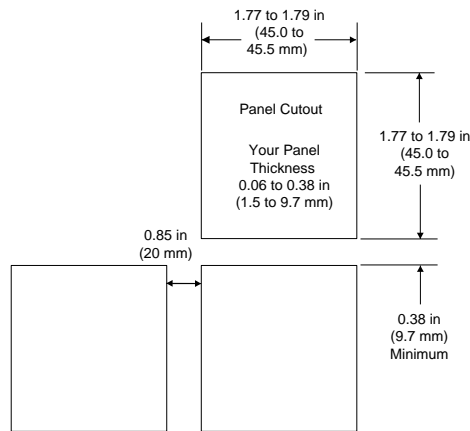

Figure 2b — Series 145 panel cutout.
1. Make a panel cutout, using the dimensions in Figure 2b.